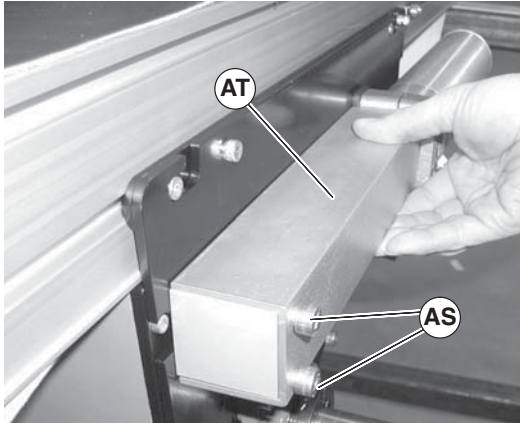

Figure 61
- Remove screws (Figure 61, item AS) and tensioning guards (AT) from both sides of center drive.